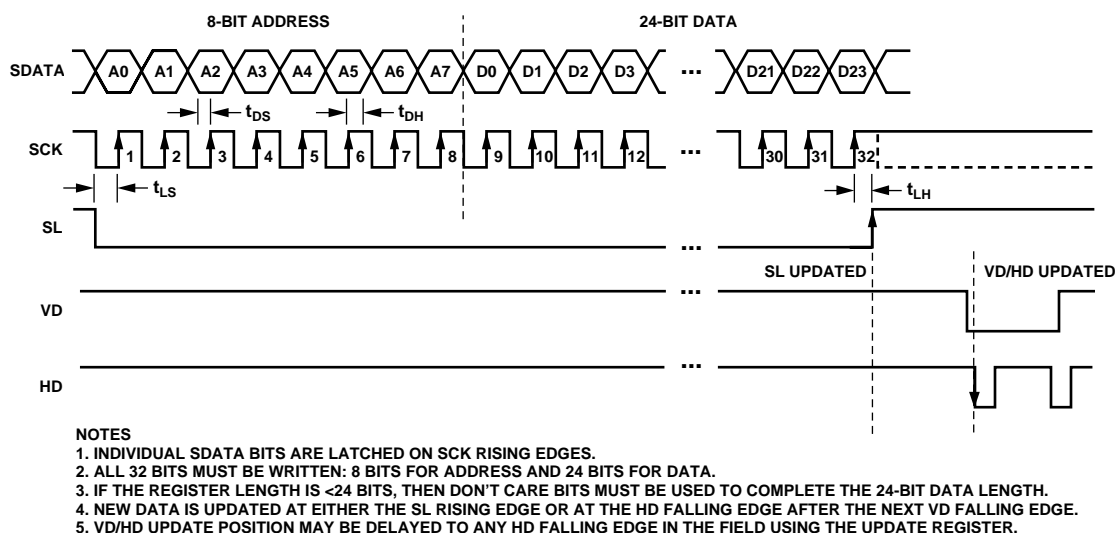

Figure 14. Serial Write Operation
The AD9949's internal registers are accessed through a 3-wire serial interface. Each register consists of an 8-bit address and a 24-bit data-word. Both the 8-bit address and 24-bit data-word are written starting with the LSB. To write to each register, a 32-bit operation is required, as shown in Figure 14. Although many registers are less than 24 bits wide, all 24 bits must be written for each register. If the register is only 16 bits wide, then the upper eight bits may be filled with zeros during the serial write operation. If fewer than 24 bits are written, the register will not be updated with new data.
2. All registers are VD/HD updated as shown in Figure 14, except for the registers indicated in Table 7, which are SL updated.